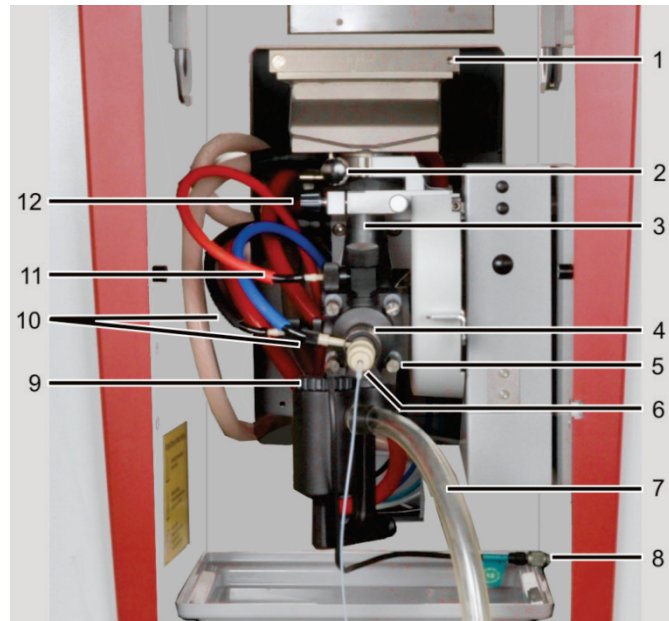
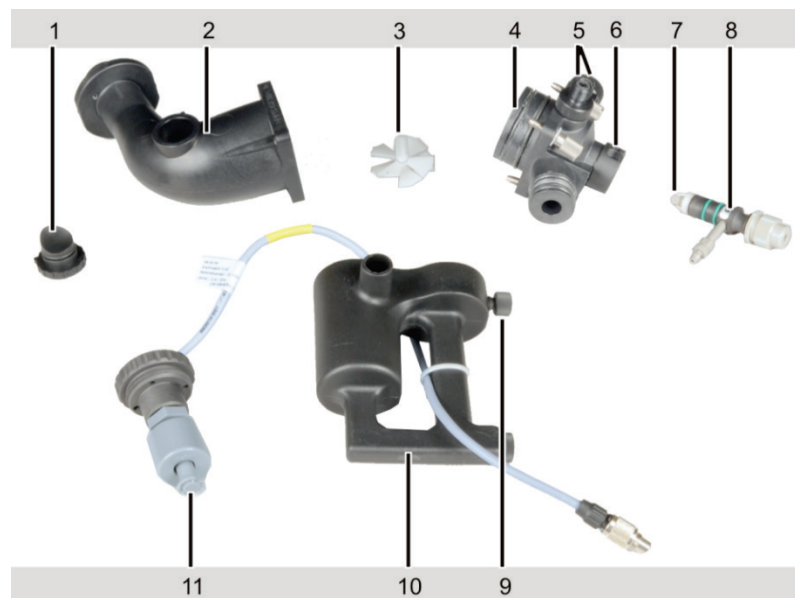
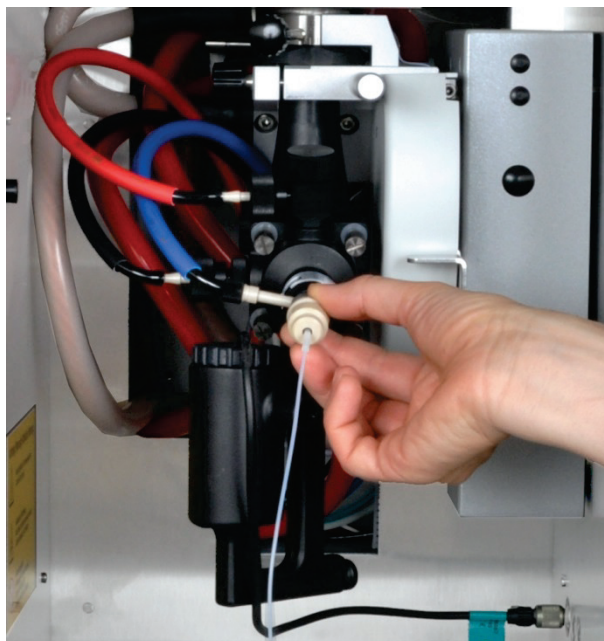

Fig. 60 Removing and disassembling the burner-nebulizer system
Fig. 61 Mixing chamber and nebulizer disassembled for cleaning
Fig. 62 Withdrawing the nebulizer from the mixing chamber
1. Loosen the retaining screw (item 2 in Fig. 60 on page 98) on the burner and remove the burner from the connector.
2. Unscrew the screwed tube connections on the mixing chamber head and the nebulizer (items 10 and 11 in Fig. 60) and pull the sample uptake tube off the nebulizer.
3. Turn the locking ring of the nebulizer (item 4 in Fig. 60) to open the locking. Withdraw the nebulizer from the mixing chamber head, holding the nebulizer in the groove (Fig. 62).
4. Unscrew the siphon sensor cable from the connection in the sample chamber (item 8 in Fig. 60) and pull it off.
5. Remove the outlet tube from the outlet connector of the siphon (item 7 in Fig. 60).
7. Unscrew the insert of the siphon sensor and remove the sensor from the siphon (item 11 in Fig. 61).
8. Hold the system tightly, loosen the knurled head screw on the holding bow of the mixing chamber tube (item 12 in Fig. 60), push the retaining clip backwards and remove the system.
9. Withdraw the safety plug (item 1 in Fig. 61) from the mixing chamber.
10. Loosen the four screw joints of the mixing chamber (item 5 in Fig. 60) and disassemble the mixing chamber into the chamber head and the chamber tube.
11. Remove the impeller (item 3 in Fig. 61) from the chamber tube.
12. Unscrew the gas connections for fuel gas and auxiliary oxidant (item 5 in Fig. 61) from the mixing chamber head.
2. Slightly turn the baffle ball (item 7 in Fig. 61 on page 98) and pull it off the nebulizer. If the baffle ball is seized, place the nebulizer back into the ultrasonic bath for another few minutes.
2. Hold the impeller at its handle (item 3 in Fig. 61 on page 98) and insert it into the mixing chamber tube. Lock by pressing slightly.
3. Mate the mixing chamber parts (chamber tube and chamber head), align the sides so that they are flush and screw them together (item 2 in Fig. 61). Ensure that the sealing rings are seated correctly.
4. Screw the siphon sensor (item 11 in Fig. 61) into the siphon. Attach the siphon to the chamber head ensuring that the float tank is inclined towards the front (refer to Fig. 60 on page 98 for the correct positioning). Attach the siphon using the clamp screw (item 9 in Fig. 61).
5. Attach the safety plug (item 1 in Fig. 61) on the chamber tube.
6. Screw the connections for fuel gas and auxiliary oxidant (item 5 in Fig. 61) with the sealing rings into the mixing chamber head. Only tighten the knurled-head screws finger tight.
7. Attach the nebulizer (item 8 in Fig. 61) to the chamber head and fasten it using the locking ring (item 6 in Fig. 61).
8. Attach the mixing chamber nebulizer system to the height adjustment using the retaining clip (item 12 in Fig. 60). The white marking must be above the edge of the holding fixture. The plate of the mixing chamber tube must rest evenly on the height adjustment. Screw the knurled head screw at the holding bow tightly.
9. Plug the cable of the siphon sensor (item 8 in Fig. 60) into the connection on the sample chamber wall (mind the lug) and screw tight.
10. Attach the outlet tube to the outlet connector of the siphon (item 7 in Fig. 60). Route the outlet tube to the waste bottle in a constant downward slope.
12. Set the burner on the mixing chamber tube and turn against the 0° stop. Clamp with retaining screw (item 2 in Fig. 60).
- Screw the fuel gas hose (red) onto the connector at the top of the mixing chamber head (item 11 in Fig. 60).
- Screw the oxidant hose (blue) onto the nebulizer connector (item 10 in Fig. 60).
- Screw the auxiliary oxidant hose (black) onto the connector on the side of the mixing chamber (item 10 in Fig. 60).